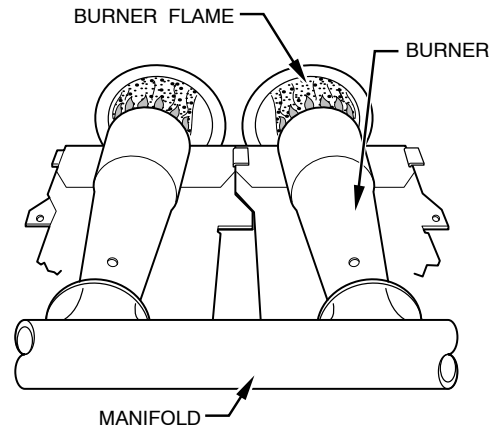

Fig. 11 - Burner Flame
16. Check furnace operation through two complete heat operating cycles. Look through sight glass in burner enclosure to check burners. Burner flames should be clear blue, almost transparent. (See Fig. 11.)